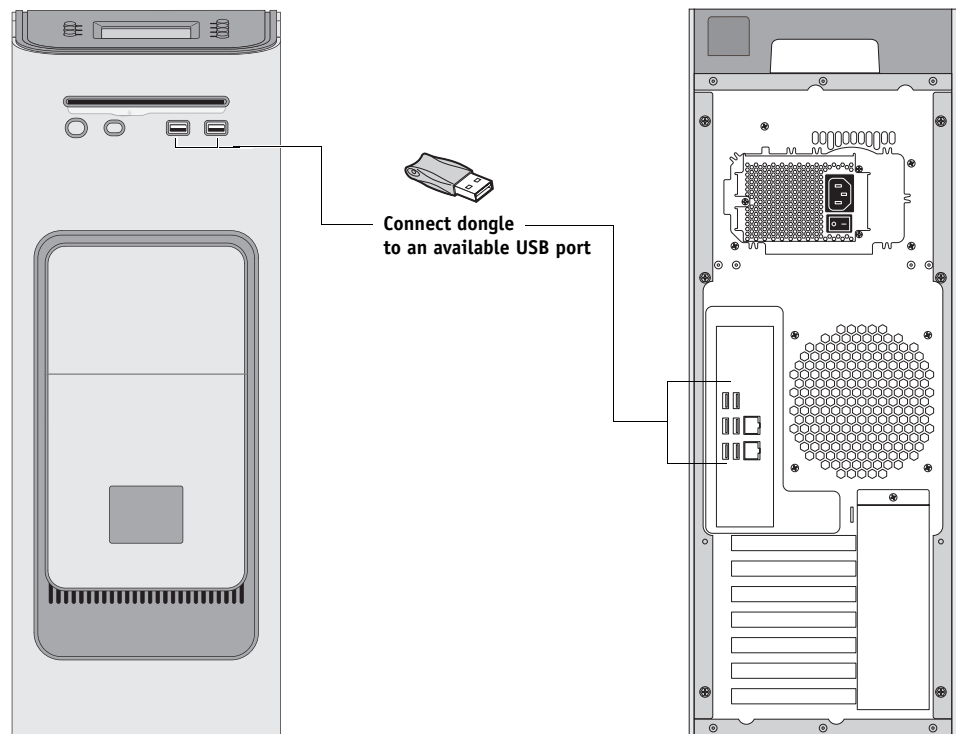

FIGURE 30: Connecting the single-use dongle
2. Unpack the single-use dongle included with the new motherboard and connect it to any available USB port on the E-81 (see Figure 30).